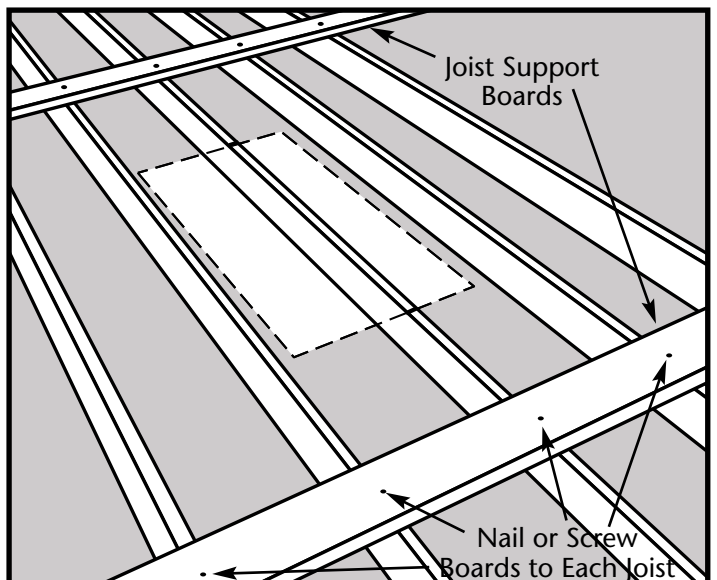

Figure 10
STEP 2. Cut 2 joist-sized boards long enough to span 2 joists on each side of your chosen location (Figure 10). These boards will support the joists that will be cut and help keep the ceiling from sagging or completely collapsing while you are working in the overhead space.
STEP 3. Place these boards approximately 24 inches from the edge of your chosen location and nail as shown in Figure 10.